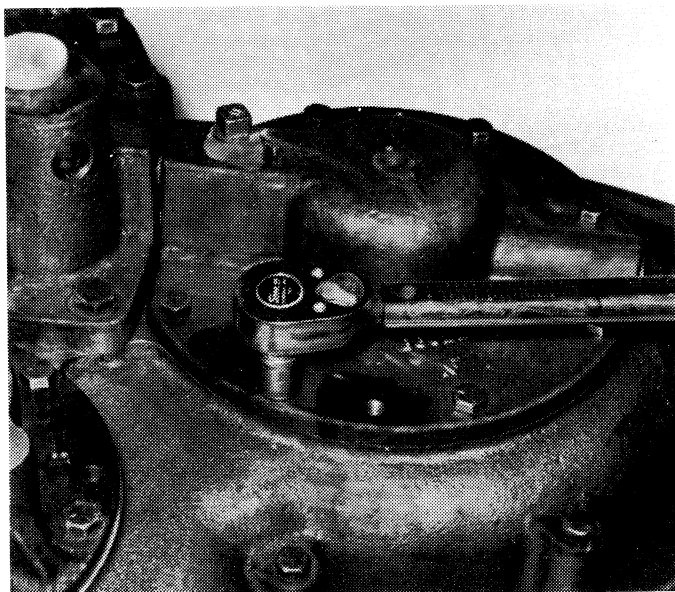

Figure 6-12. Removing or Installing Screws on Forward Shaft Collector.
3. Remove the eight hex-head screws (Figure 12-1, 8) from the forward shaft collector (7). See Figure 6-12.
8. Remove the forward shaft collector. See Figure 6-12.